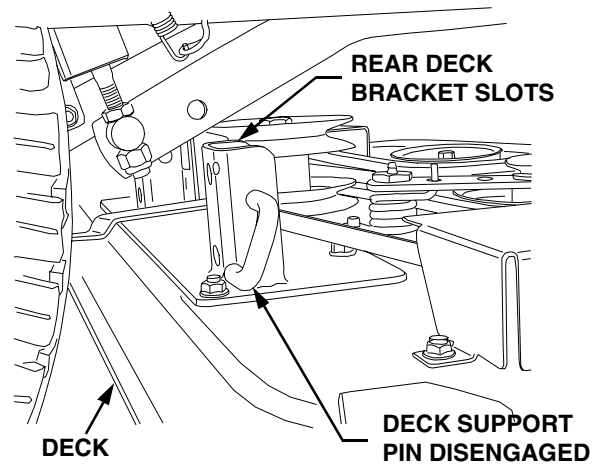

Figure 53
6. If not already done, pull the deck support pins outward, turn downward and release so both spring-loaded pins are held in the disengaged position against the outer surface of the deck brackets (Refer to Figure 53).